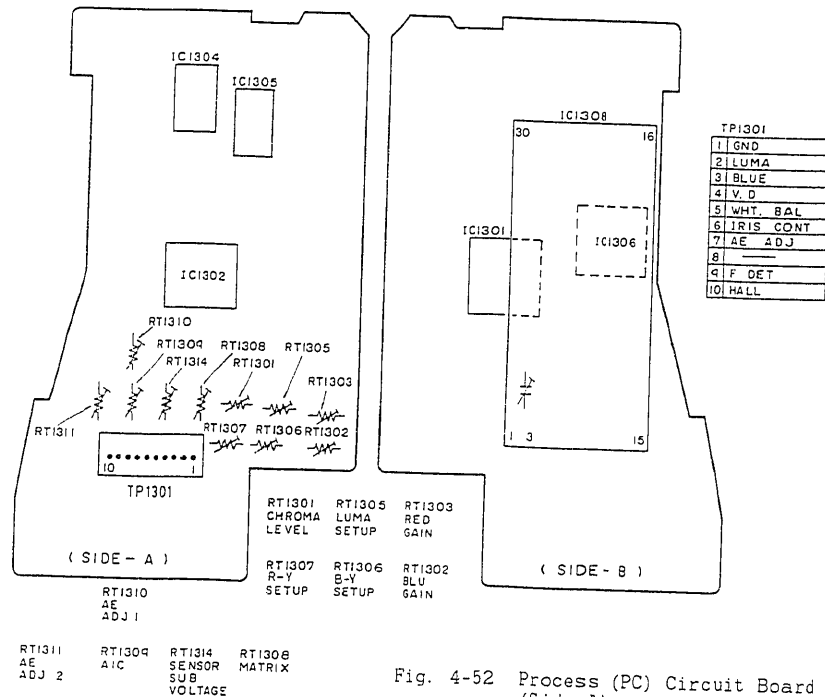

Fig. 4-52 Process (PC) Circuit Board (Side-A)
(8) White Balance Hold Voltage Setting (Fig. 4-52)
(12) Program AE Adjustment (Fig. 4-52)